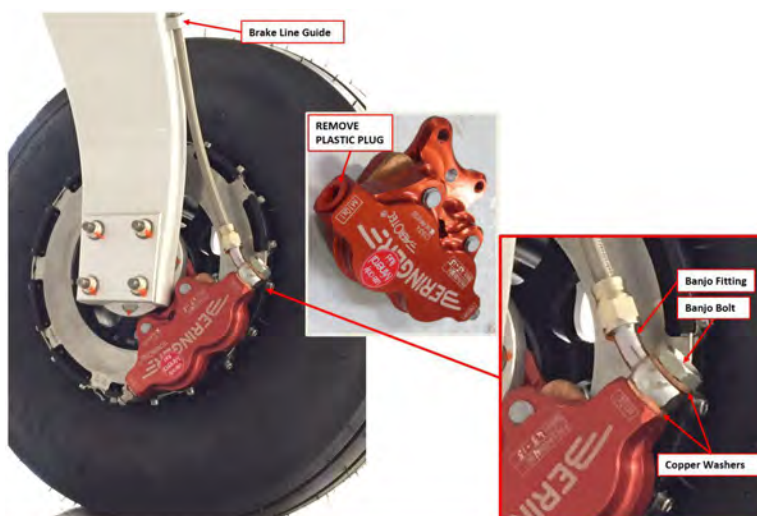

FIGURE 14-10
10. Connect the banjo fitting end of the brake line to the caliper, routing the line in a natural way up through the MLG leg guides. Do not put a twist in the line. Use a HYD-003P Banjo bolt and two HYD-005B copper washers as shown in Figure 14-10. Torque the Banjo bolt to 140 in-lb_f.